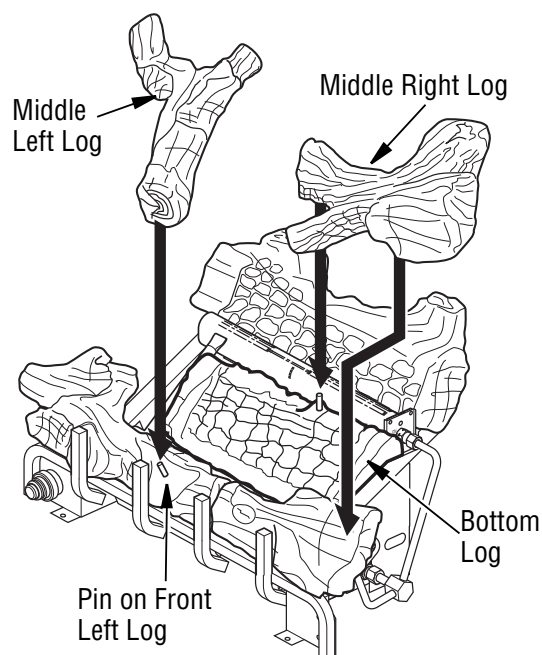

Figure 21 - Installing Log Sets
5. Place middle right log over front right and bottom logs as shown in **Figure 21**. Be sure hole in middle right log seats over pin in bottom log.
6. Place middle left log over front left and bottom logs as shown in **Figure 21**. Be sure hole in middle left log seats over pin in front left log.